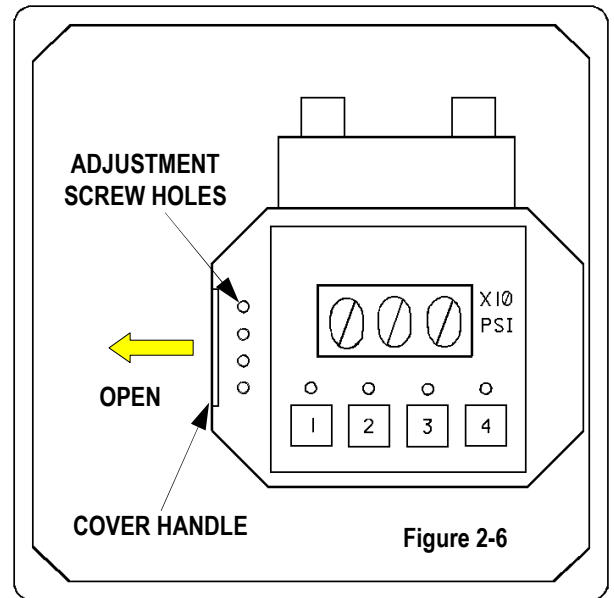

Figure 2-6
1. Remove the cover on the right control box. Inside there is a unit with a membrane switch and digital display. See Figure 2-6.
3. If a setting needs to change, push the cover on the left side of the unit to the left. See Figure 2-6.